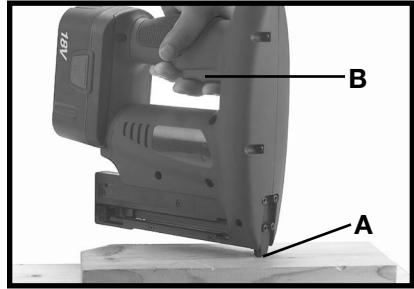

Fig. 9
2. To fire, grip tool firmly to maintain control, position nose of tool onto work surface, push tool firmly against work surface to depress safety, as shown at (A) Fig. 9, and then squeeze trigger (B) to fire a fastener.
5. Press the tool safety (A) Fig. 9, against a block of scrap wood. Be sure to keep hands away from driver blade area.